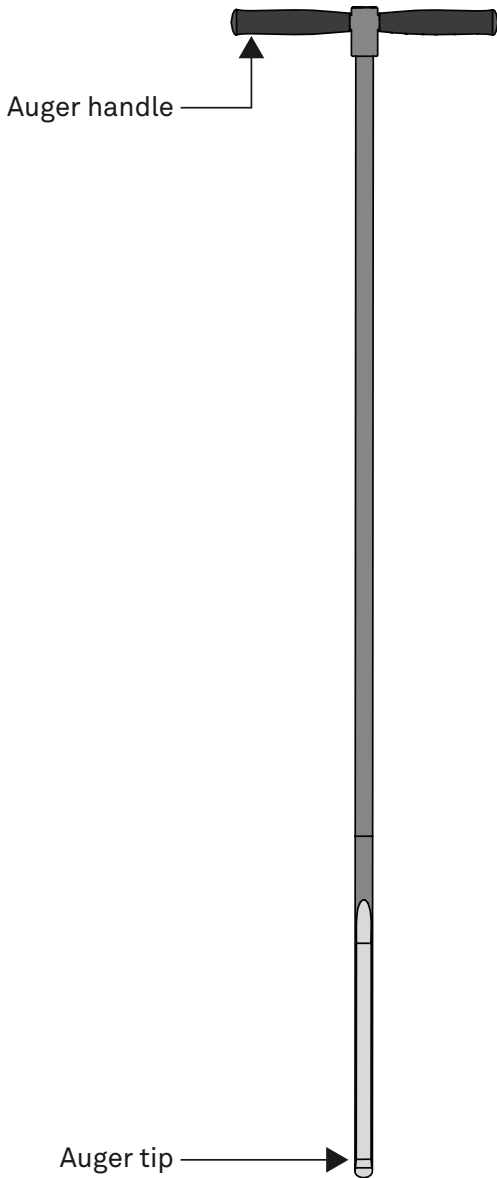

Figure 2 TEROS 54 auger
- The TEROS 54 auger is shaped to prevent soil compaction near the probe elements (Figure 2).